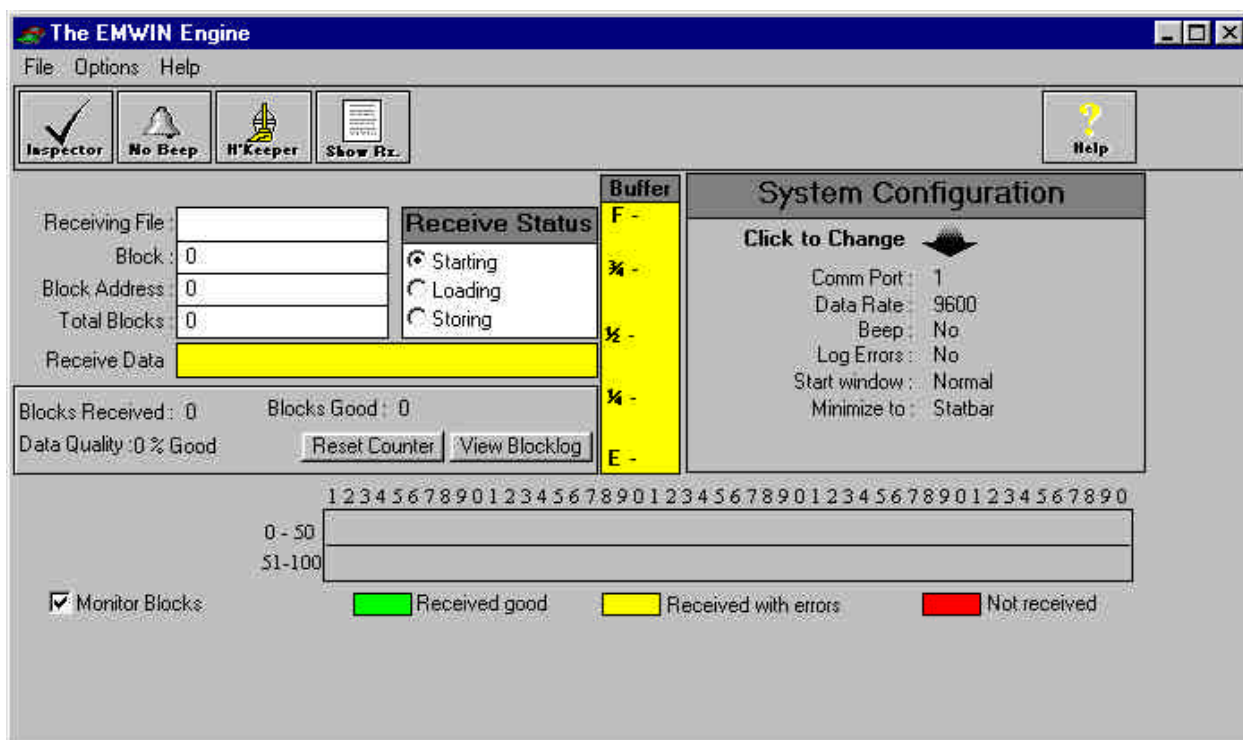

Figure 6 EMWIN Engine
- (1) Double click on the Weathernode 4.0 EZ icon (it looks like a small cloud with rain falling from the cloud). A small work bar displays on the monitor screen usually towards the top left area of the screen.
- (2) Select **Modules**. A small window displays from the work bar with several options to select.
- (3) Select the **EMWIN Engine** option. A graphical window representing the EMWIN ingest engine displays (see **Figure 6**). The EMWIN Engine window is very useful in monitoring data quality and proper operation of data stream reception.
- (4) Configure the System Configuration box by clicking the mouse on the following values:
- (5) Check the **Monitor Blocks** box.
- d. Monitor data quality using the EMWIN Engine window, **Figure 6**.